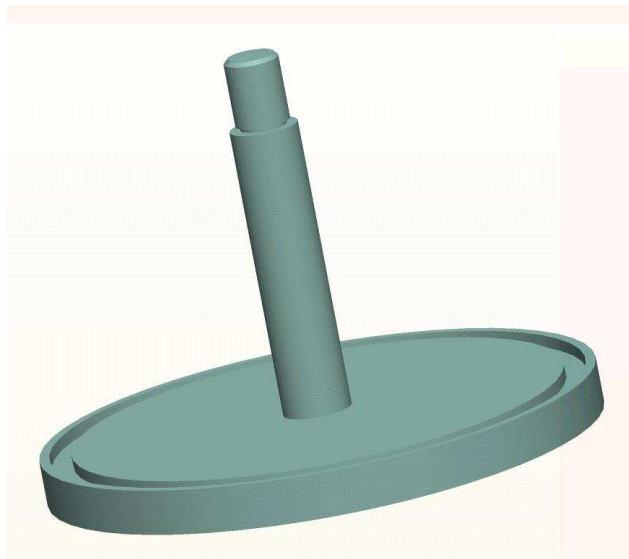

Figure 6 - Transit bung
4. Stand the cryostat on a set of support blocks, to allow access to the transit bung (Figure 6) underneath. Ensure the cryostat is still on the crane with the chains slightly slack while working underneath